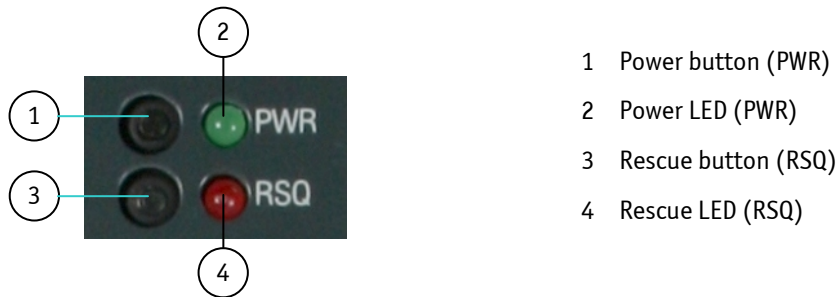

Fig. 15: Detail - Power button and PWR LED/Rescue button and RSQ LED
This power button (PWR, Fig. 10, Fig. 15, pos. 1) is used to initiate a system power shut down or power start up after a power shut down. A forced system shutdown can be initiated by pressing the power button for longer than four seconds.
The power LED (marked PWR, Fig. 10, Fig. 15, pos. 2) is on green steady when power is applied to the system.
The RESCUE button (RSQ, Fig. 10, Fig. 15, pos. 3) is used to force using the backup flash for system booting. The RESCUE LED (RSQ, Fig. 10, Fig. 15, pos. 4) blinks red when the backup flash is selected for booting. The backup flash contains a cloned BIOS (uEFI) version. In the event the system does not properly start-up or gets hung-up and restarting (cold booting) the system does not help, it is possible to switch to the backup boot flash and then restart the system. To do this, press the RSQ button for more than five seconds, whether or not the system is running it will now start-up using the backup flash for booting.